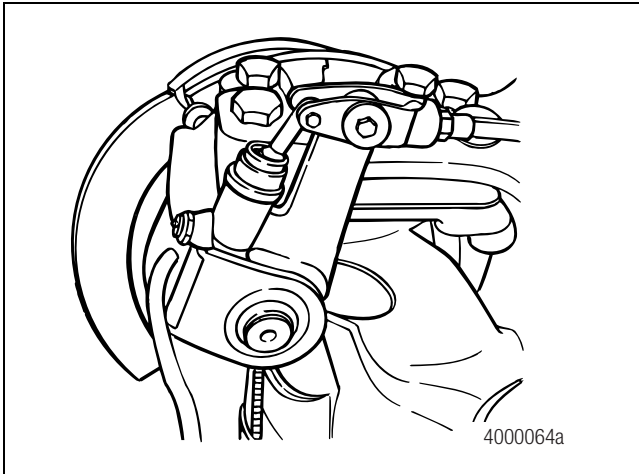

Figure 6.23
5. Install the pin and retainer that engages the push rod yoke and the slack adjuster plunger rod. Figure 6.23.